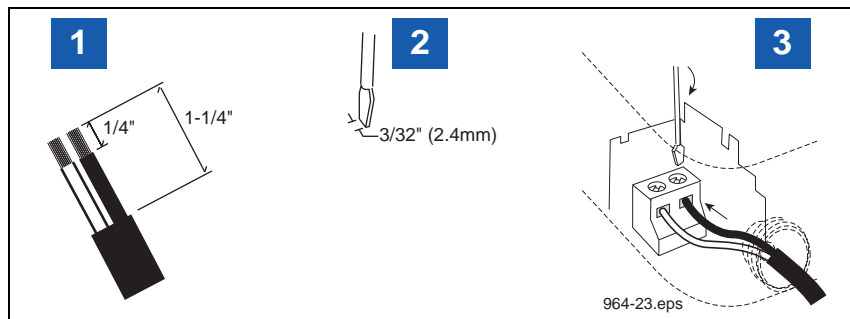

Figure 17. Connecting Input Wiring To Transmitter Terminal Blocks
4. Strip back cable jacket and wires as shown in Figure 17.
LEGEND FOR NUMBERED BOXES IN Figure 17
7. Strip back cable jacket and wires as shown in Figure 17.
5. Slide the nut over the cable. Choose the correct size bushing and slide it over the cable. Dress the cable jacket according to the dimensions in Figure 17. Insert the cable into the appropriate opening at the bottom of the housing. Insert each wire into the appropriate terminal and tighten. Leave a small amount of slack in each wire. Slide the bushing into the bottom of the housing. Hand tighten the nut.
9. Slide the nut over the cable. Choose the correct size bushing and slide it over the cable. Dress the cable jacket according to the dimensions in Figure 17. Insert the cable into the appropriate opening at the bottom of the housing. Insert each wire into the appropriate terminal and tighten. Leave a small amount of slack in each wire. Slide the bushing into the bottom of the housing. Hand tighten the nut.